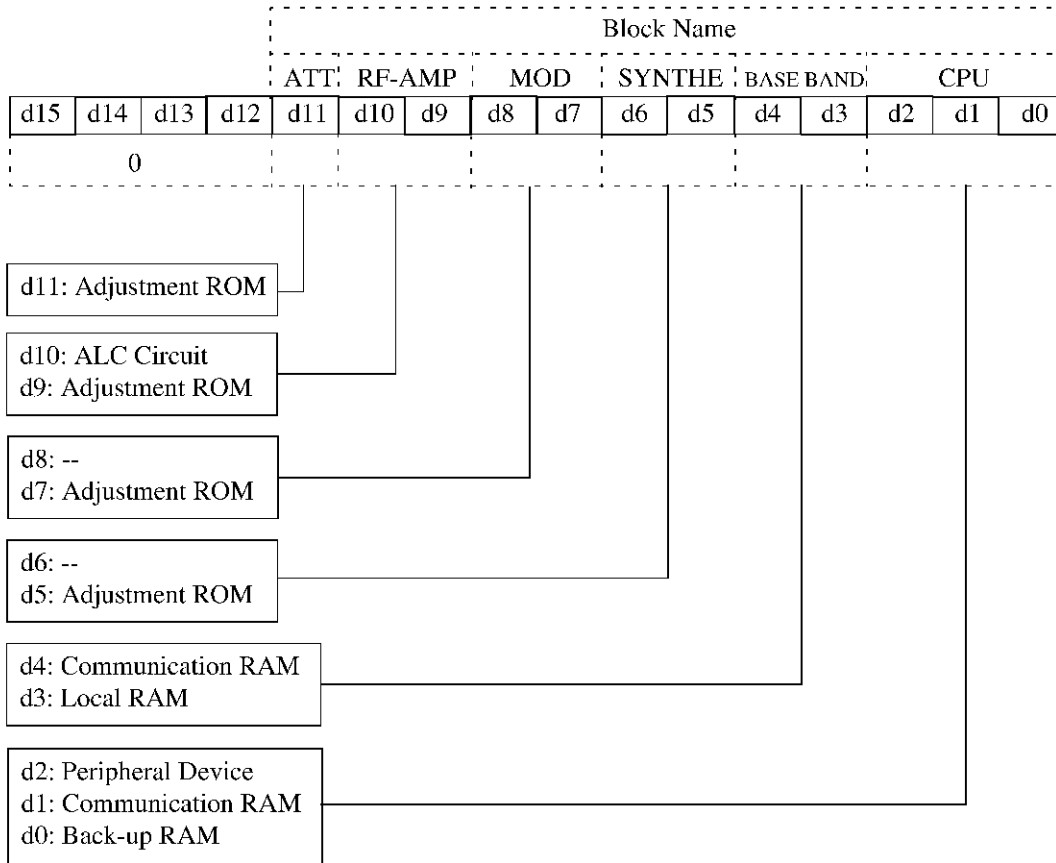

Figure 4-6 Self-test Result Register's Bit Assignment
- (5) Self-tests
- This function performs self-test(s) for each section of this instrument. The POWER, REMOTE, SYNTH UNLOCK and RF OUT lamps are turned on during the tests. An alarm will sound each time one of the self-tests completes. The self-test results are read into a 16-bit register using GPIB. This instrument sends the result out by outputting the contents of the register. When an error occurs, the corresponding bit is turned on ("1"). When no errors have been detected, the corresponding bit is turned off ("0"). The higher-order four bits (d15 to d12) are always set to "0" (see Figure 4-6).